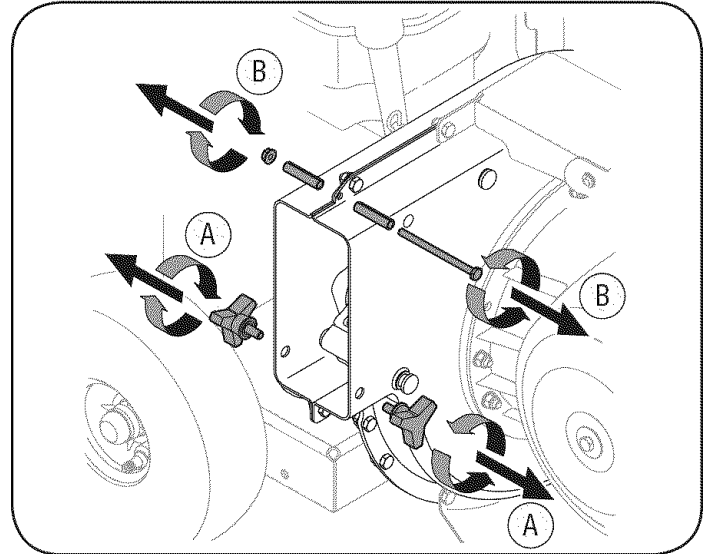

Figure 3
- Remove the wing knobs from each side of the lower impeller housing. See Figure 3.